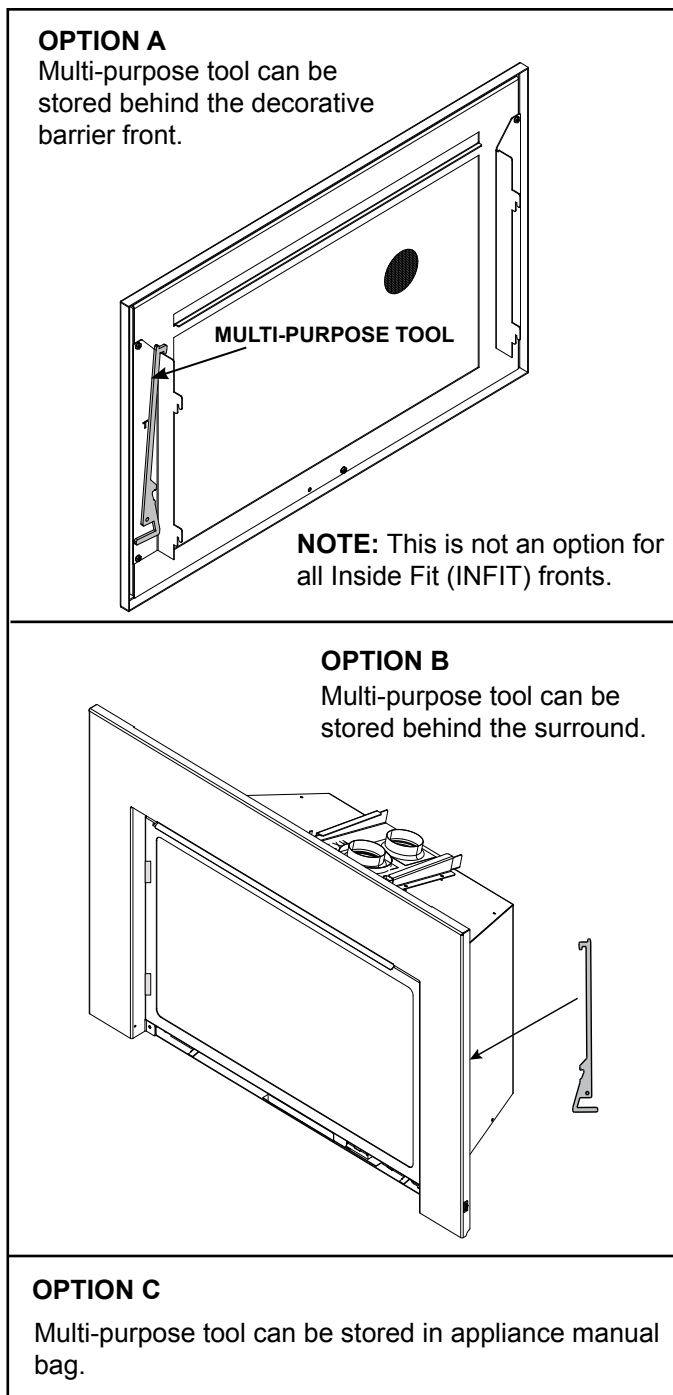

Figure 2.3 Multi-Purpose Tool Storage Options
- See Figure 2.3 for multi-purpose tool storage location options.